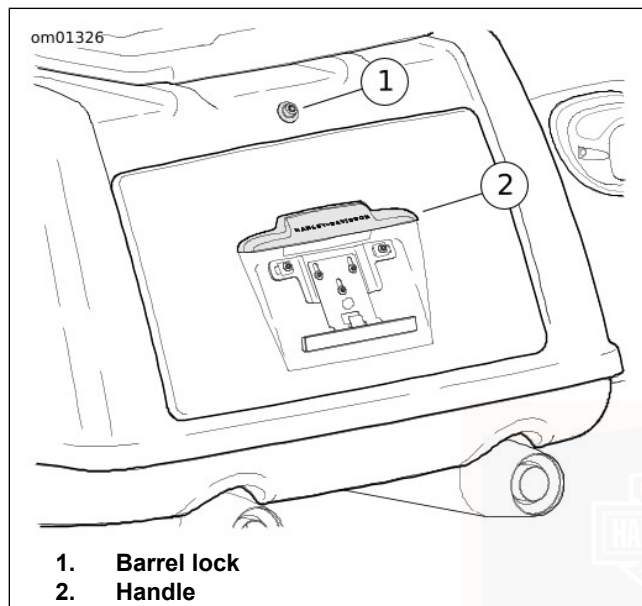

Figure 16. Trunk
2. See Figure 16. Push in the barrel lock to unlatch door. Pull handle to open trunk door.